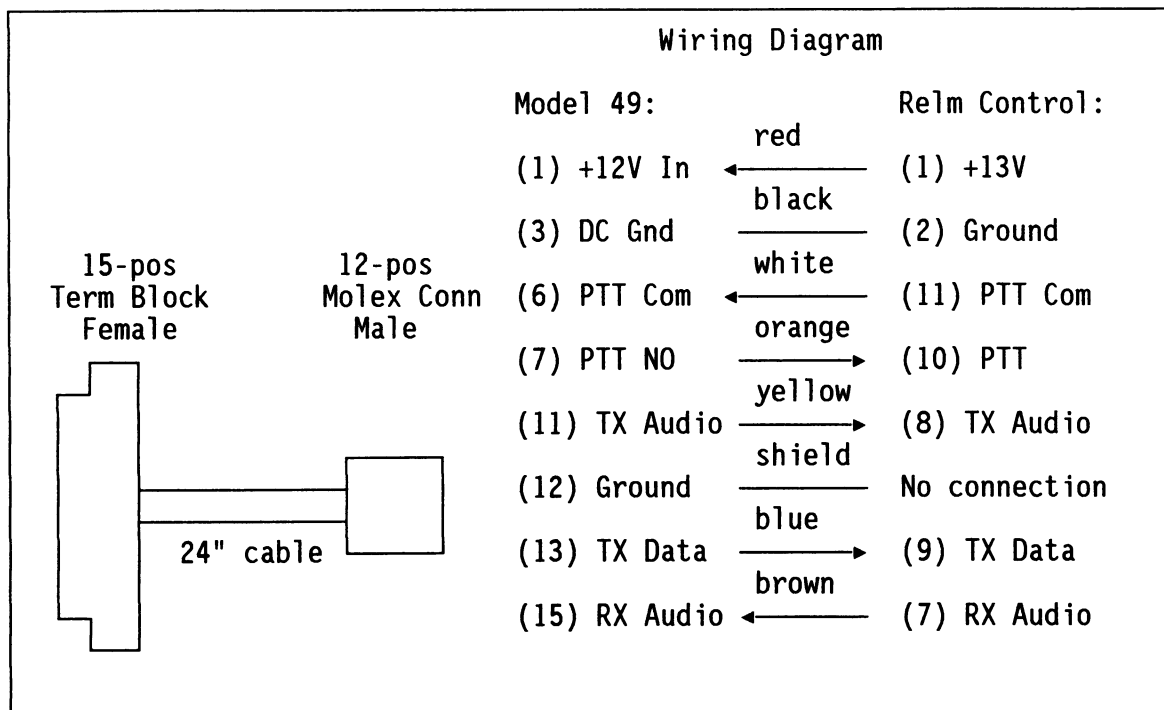

Figure 4-11. Model 49 to Relm Repeater Cable (P/N 709-7148)
- []9. Connect the Model 49 to the Relm bulkhead connector with the repeater cable as shown in Figures 4-11 and 4-12.